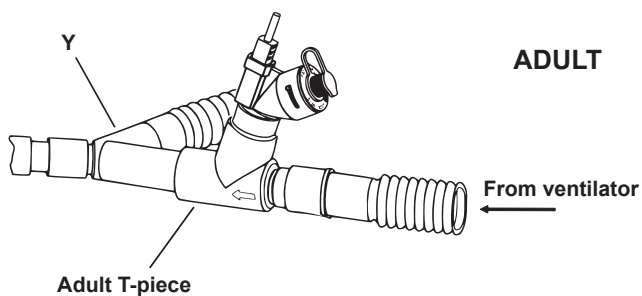

Figure 7: Connecting to an adult breathing circuit
1. For **adult breathing circuits**, connect the nebulizer unit with adult T-piece into the inspiratory limb of the breathing circuit before the patient Y (Figure 7).